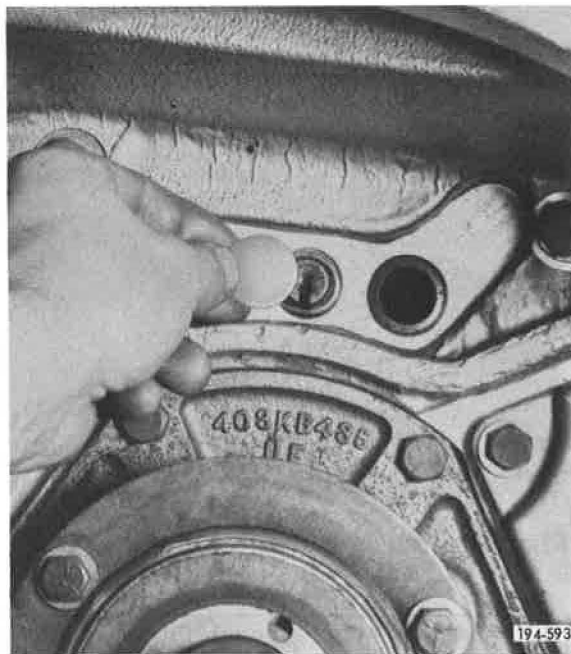

Figure 5-987. Positioning Expansion Plug
18. Place expansion plug in position at front of second/third speed shift rail. See Figure 5-987.